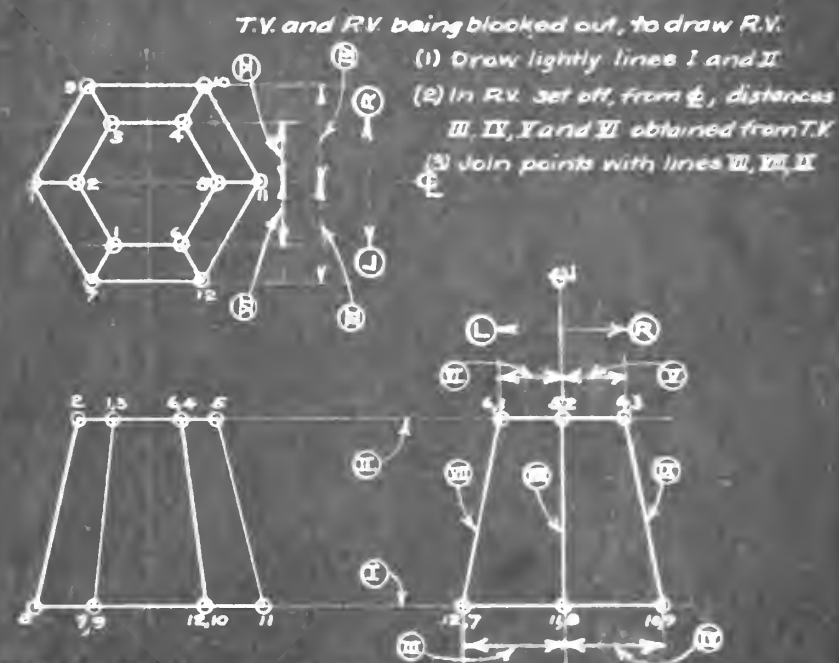

Fig. 4 - Two views given, to draw third.
PROB. 1 of Sheet 8 requires this to be done. Method shown by FIG. 4 on PAGE 41.
- (d) “ “ **R.V.** as explained by FIG. 4 on PAGE 41.